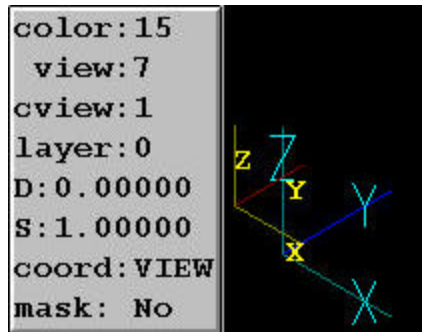

Figure 1: Set up of axes and settings in box
- 4.) Set the CVIEW to 1 – TOP VIEW. This aligns the Z-Axis vertically, which is how the milling machine is also set up. See figure 1 to see how the axes should be set up, and what the settings should be in the lower left hand corner of the screen.